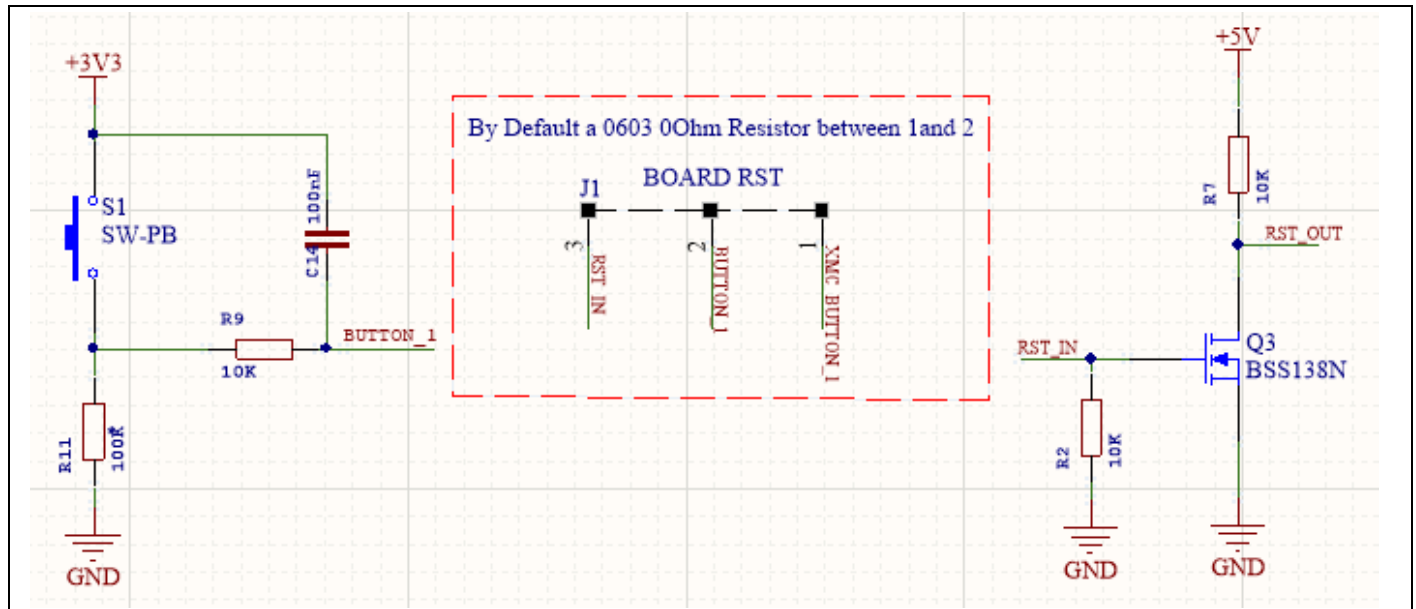

Figure 4 **Reset**
- Configure button S1 to serve as a Reset Button using the IFX1763LD V33 enable capability. To enable this feature J1 must be changed to position 3-2 as shown in Figure 4.